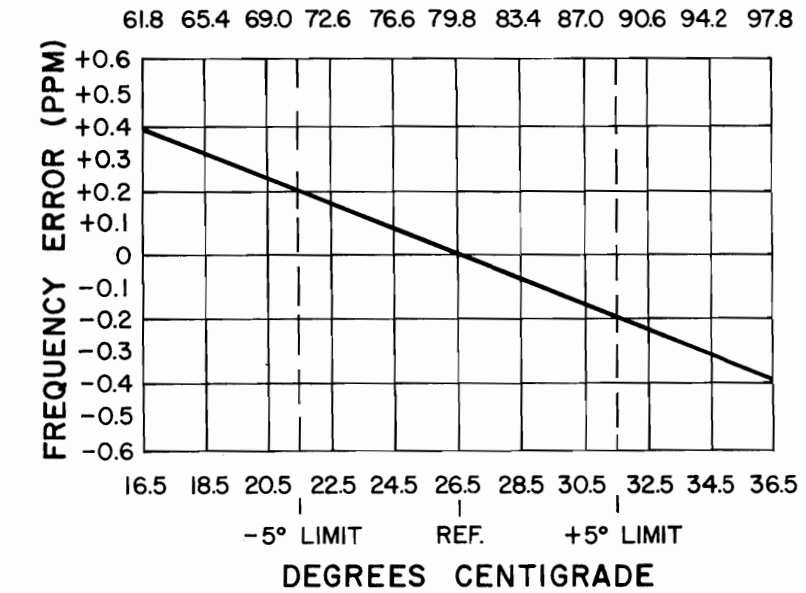

Figure 2 - Frequency Characteristics Vs. Temperature
To Set ICOM frequency using "beat frequency" method, the temperature should be at 26.5°C (79.8°F). If the temperature is not 26.5°C, then offset the "ON FREQUENCY" signal (at the receiver input), as a function of actual temperature, by the frequency ERROR FACTOR (in PPM) shown in Figure 2.
- 2. Maintain the radio at 26.5°C ( $\pm 10^\circ\text{C}$ ) and offset the oscillator, as a function of actual temperature, by the frequency error factor shown in Figure 2.
- B. To hold setting error to  $\pm 0.35$  PPM (which is considered reasonable for 2 PPM ICOMs): Maintain the unit at 26.5°C ( $\pm 5^\circ\text{C}$ ) and offset the oscillator, as a function of actual temperature, by the frequency error factor shown in Figure 2.